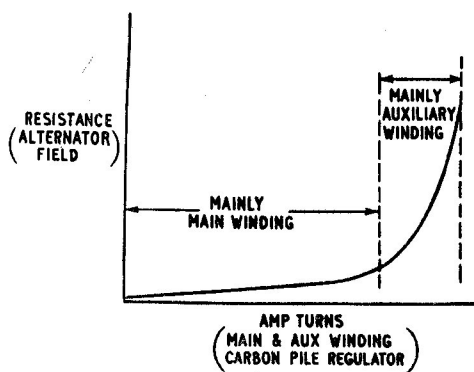

Fig. 7. Resistance—amp. turn curve
7. In the first instance, when the inverter begins to feed the rectifier bridge (5MR5 and 5MR6) the voltage is not high enough to strike either of the voltage reference tubes, and they therefore do not conduct. The output of the rectifier is therefore through the first control winding only. As the current in this control winding increases, it tends to decrease the flow through the transducer. The d.c. current from rectifier 5MR4 is small, and the ampere turns on the auxiliary winding of the carbon pile regulator 5X1 build up slowly. As the output of the generator increases the ampere turns of the main winding of 5X1 increase also (fig. 7).